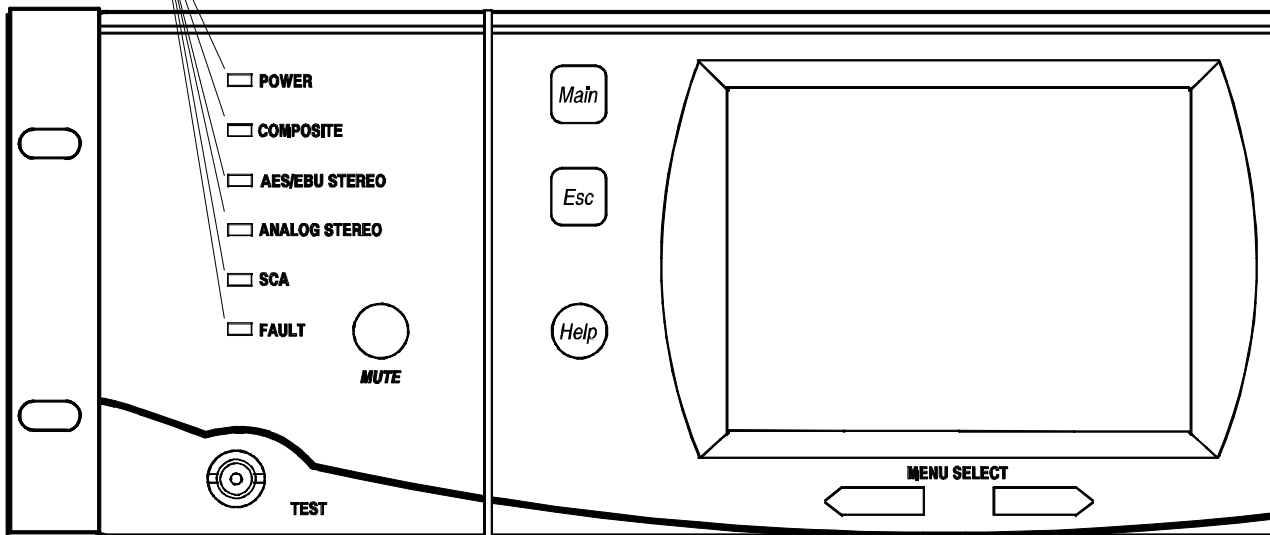

Figure 2, Front Panel
- a. **Front panel:** (Refer to Page 1-4, Figure 2)